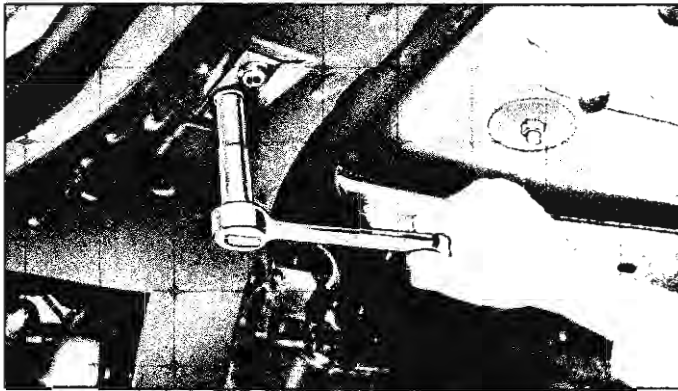

Fig. 54—Removing Center Bearing Support Attaching Bolts
1. Remove two bolts attaching center bearing support to frame X member (fig. 54).